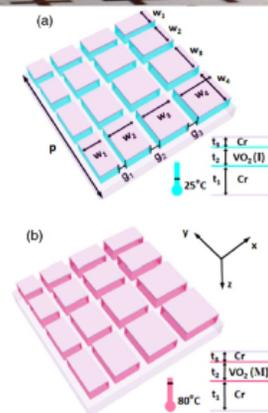

Fig. 4: Schematic diagrams of tunable metamaterial ultra-broadband absorber with VO2 spacer in the (a) Insulating phase and (b) Metallic phase.
- This design uses patterned plasmonic metasurface with thermo-chromic VO2 spacers as shown in figure 4.